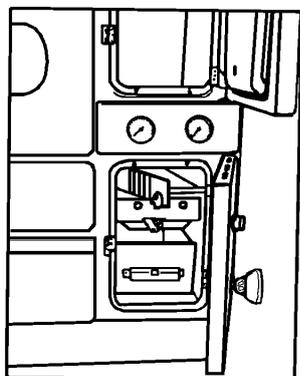
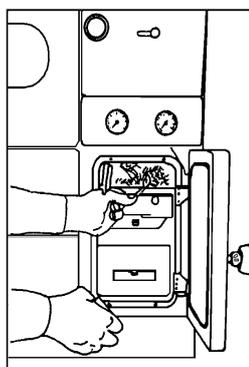
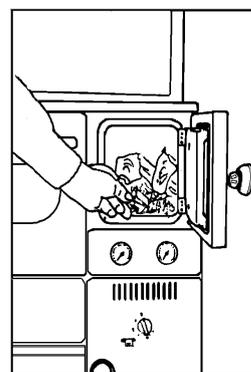

Figure 9
Figure10
Figure 11
We stoke the stove as all permanently burning stoves on solid fuels. When the grate is in lower position, we perform kindling through the open door of the ashtray and the ember holder (fig.9 and fig.10). We open the ember holder (fig.1 pos.13 and fig.9) by raising and pulling. When the grate is in upper position through the open door of the firebox (fig.11) on the grate we put paper, small pieces of chopped wood and kindle. When everything is burning well, we can fill the stove with wood or coal if the grate is in upper position. If the grate is in lower position, do not put at once all the needed heating material for full firebox, but divide it on two or three parts and put it in the firebox at intervals of 10-15 minutes on flaming heating material. The stove filled in this manner burns from 1 to 6 hours, depending on the intensity of combustion in the stove and the adjusted power regulator (thermostat).
For cooking, baking and frying in the transit period, the upper grate position is used (fig.11) so that the flame could directly reach the hob thus saving the costs for cooking, baking and heating.
- Placement of the grate in lower position (fig.9 and 10) is performed in the same manner as the upper position, provided that in the end the front part of the grate is lifted a little and through the rectangular opening of the rod carrier (fig.1 post.25) the rod for shaking the grate should be inserted. The grate is slowly put down so that the grate notch falls in the opening of the rod for shaking the grate.